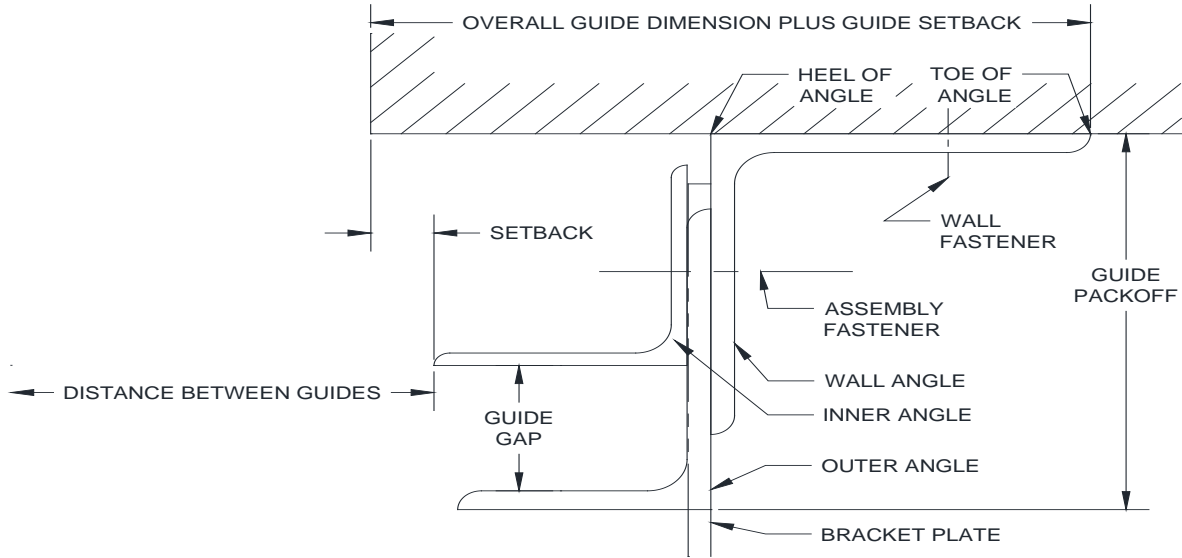

Figure 5.1 – Face of Wall “Z” Guide
▪ Face of Wall Units (Figures 5.1 - 5.5):
3. Measure the distance from the opening/jamb to the heel of the wall angle (on “E” guides) or the toe of the wall angle (on “Z” guides). This distance is referred to as the “*Overall Guide Dimension plus Guide Setback*”; see **Figures 5.1 - 5.5**. See the job construction drawings for the dimensions.